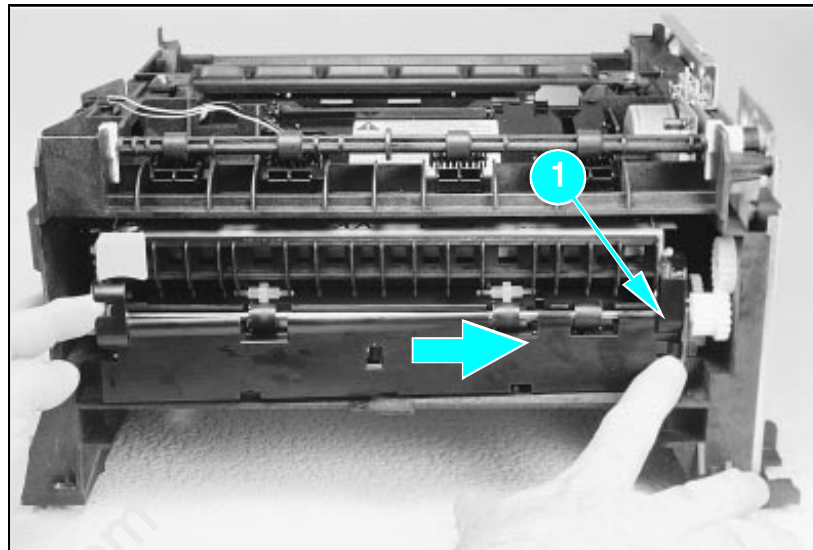

Figure 24 Removing the fuser cover.
2. Locate the black plastic fuser cover at the back of the printer. Press the release tab (callout 1 in Figure 24).